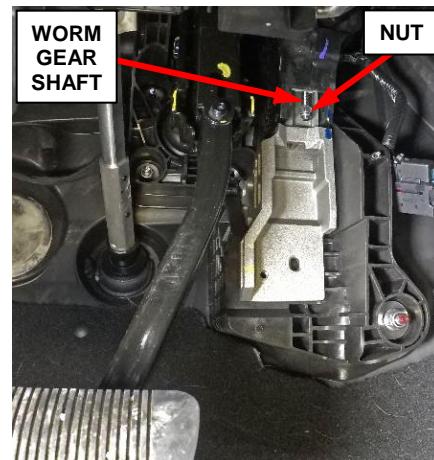

Figure 4 – Worm Gear Shaft
- 6. Install the spacer (band-clamp) onto the pedal assembly worm gear shaft just above the nut (Figures 4 and 5).